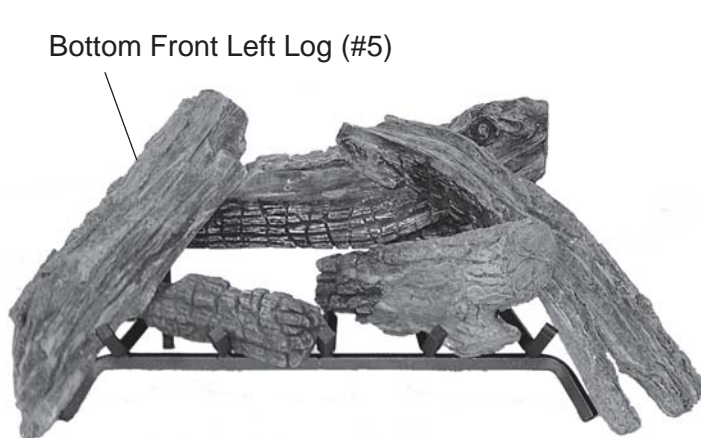

Figure 80 - Installing Bottom Front Left Log (#5)
6. Rest Bottom Left Log #5 on back log #1 and to the outside of the left grate prong. *See Figure 80.*